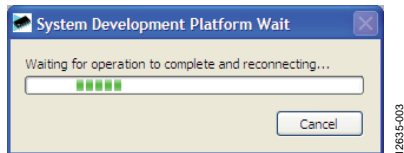

Figure 3. Connection Message
5. Click **Start > All Programs > Analog Devices > AD5593R > AD5593R Evaluation Software**. When the software connects to the evaluation board, the message shown in Figure 3 displays.